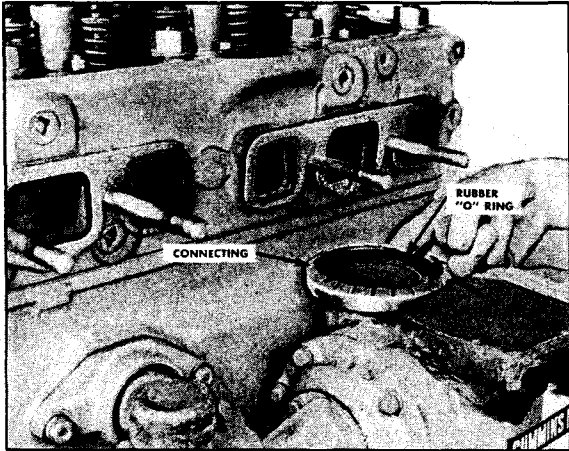

Fig. 12-62. Assembling connecting band
1. Assemble the supercharger-to-intake-manifold connecting band loosely over the supercharger. Fig. 12-62.